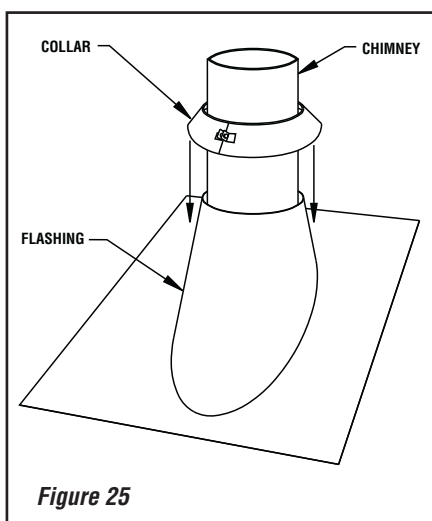

Figure 25
4. Put the roof flashing in place and seal the joint between the roof and the flashing with roofing pitch (see **Figures 25 and 26**). For sloping roofs, place the flashing under the upper shingles and on top of the lower shingles. Nail the flashing to the roof, using roofing nails.